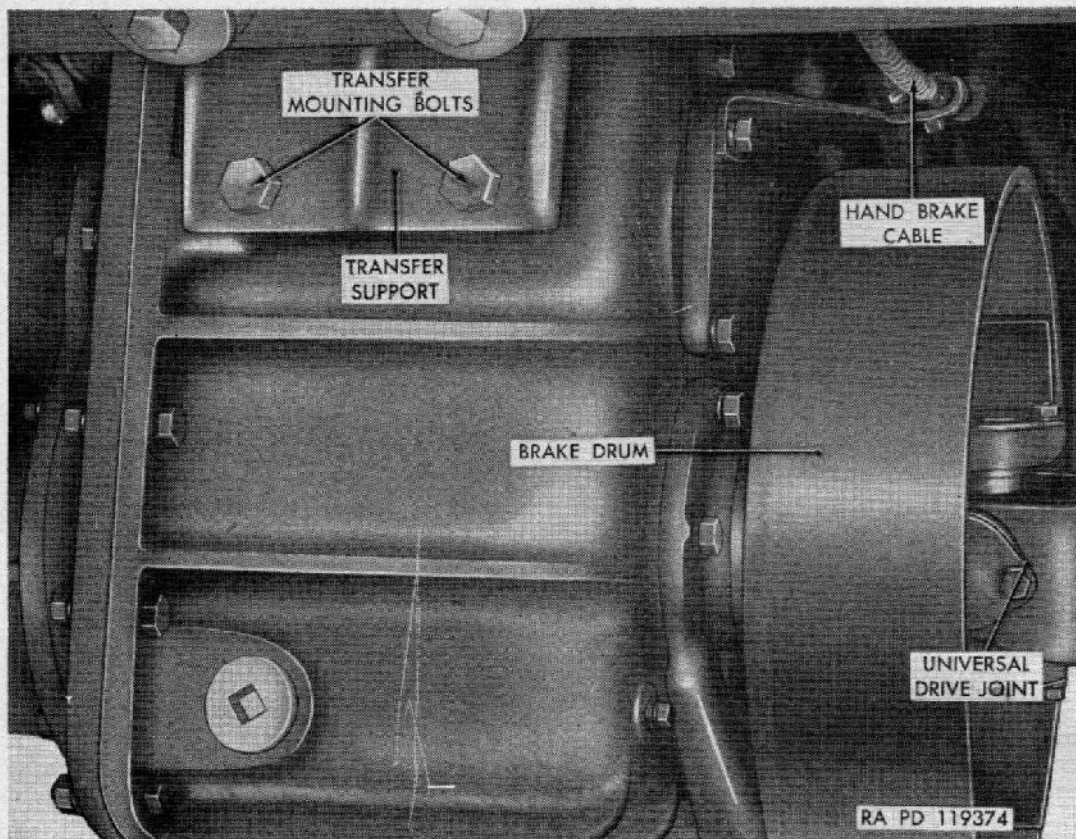

Figure 89. Transfer—installed view.
a. MODEL M34, SERIAL NUMBERS 90484 AND BELOW. The transfer is a two-speed unit driven by transmission and distributes power to front and rear axles through propeller shafts. The transfer is located immediately back of transmission and is mounted on two transfer supports (fig. 89). Driver's control is by transfer gearshift lever (fig. 16) in cab. Transfer gearing is designed to drive front axle at lower revolutions per minute than rear axles. An overrunning sprag clutch on drive to front axle automatically eliminates delivery of power to front axle during normal operation forward and front wheels run freely. When rear wheels slip, the overrunning clutch engages, and the front wheels drive. When transmission is in reverse,